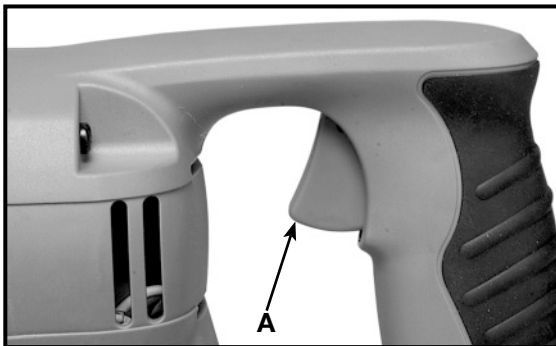

Fig. 7
2. Hold saw firmly. Squeeze trigger switch (A) Fig. 7, to start motor. Release trigger to stop motor.